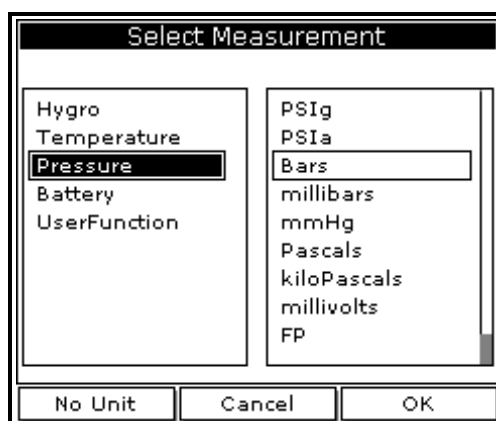

Figure 44: Select Measurement Window
1. Use the **[▼]** key to step to a box and press **[ENTER]**. A screen similar to Figure 44 appears.